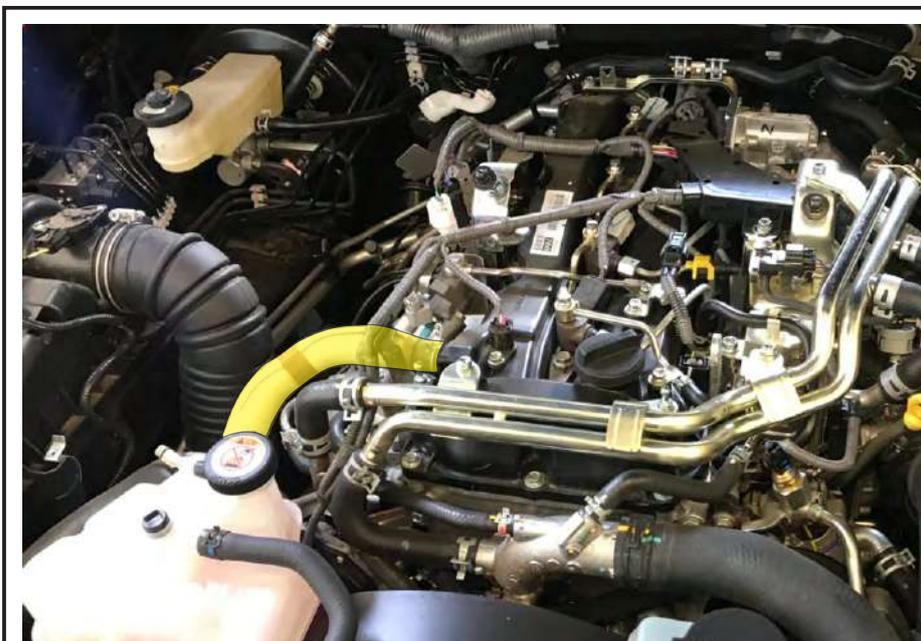

FIG. 3 FACTORY PCV HOSE POSITION AT ENGINE BAY
3. Install the Ryco fuel water separator head with metal quick connectors, blanking plugs and rubber bonded washers, as per Fig 3. Tighten blanking plugs(on Port 3 & 4) and quick connectors (on Port 1 & 2).
2. Remove the engine cover. Locate the engine PCV valve outlet port at the front drivers side of the engine (see Fig. 3). Disconnect the factory PCV hose (coloured yellow in Fig. 3 & 4) from the PCV valve outlet port but leave the other end attached to the air intake.